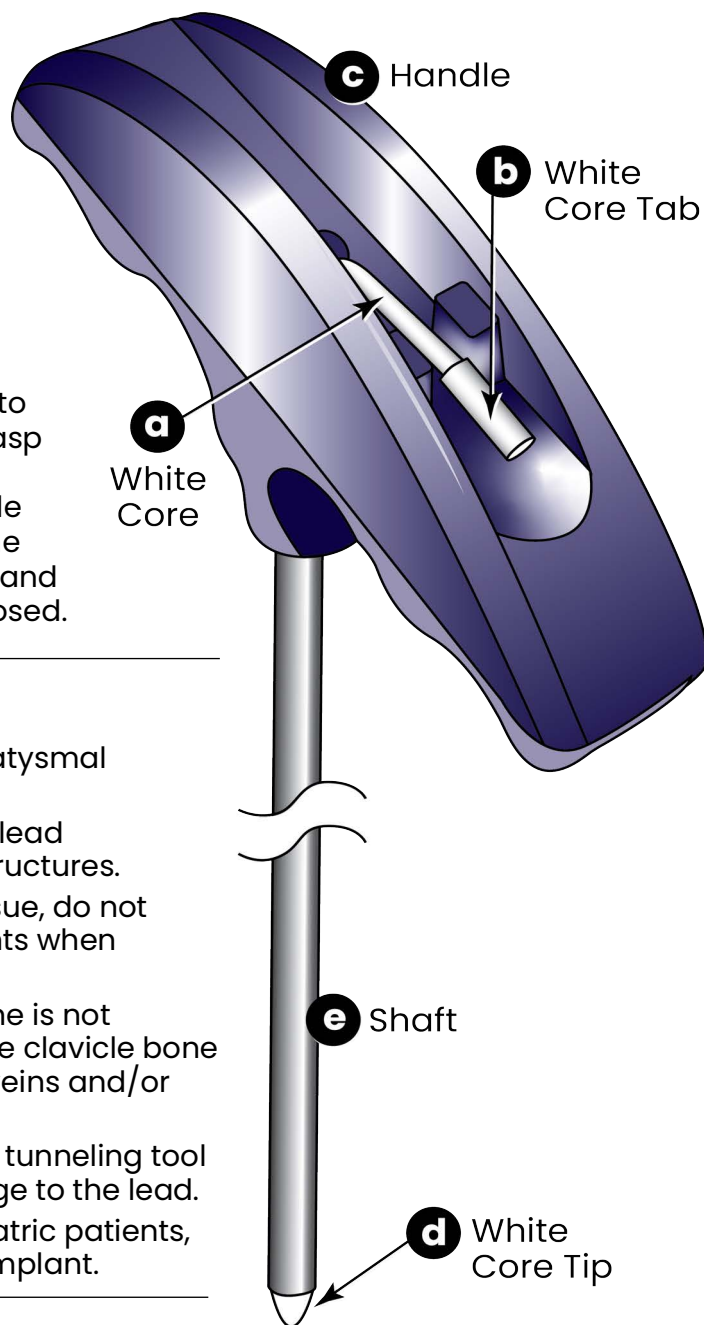

Figure 2. Tunneling Tool Components
3. Unhook the white core Figure 2 (a) from the setting in the handle by grasping the white core tab Figure 2 (b) end and pulling up.
4. Hold the handle Figure 2 (c) and pull the white core tip Figure 2 (d) from the bottom of the shaft out of the tunnel near the generator incision site.
6. While holding the shaft Figure 2 (e) in place, pull the handle from the shaft and set aside.